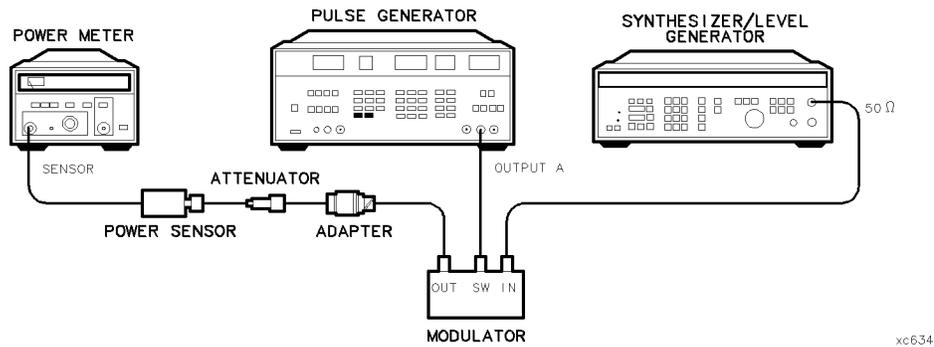

Figure 2-87. Input Amplitude Calibration Test Setup
2. Connect the equipment as shown in Figure 2-87.